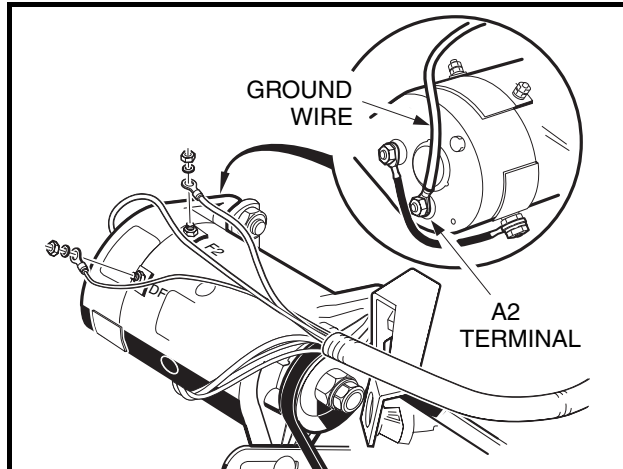

Figure 11-9 Starter/Generator Ground Cable Test
- 2.1. Set the multimeter to 200 ohms. Place the red (+) probe on the A2 terminal of the starter/generator and place the black (-) probe on the vehicle frame (**Figure 11-9, Page 11-16**). The reading should be continuity. If there is no continuity, clean and tighten cable connections. If the connections are good, repair or replace the cable.